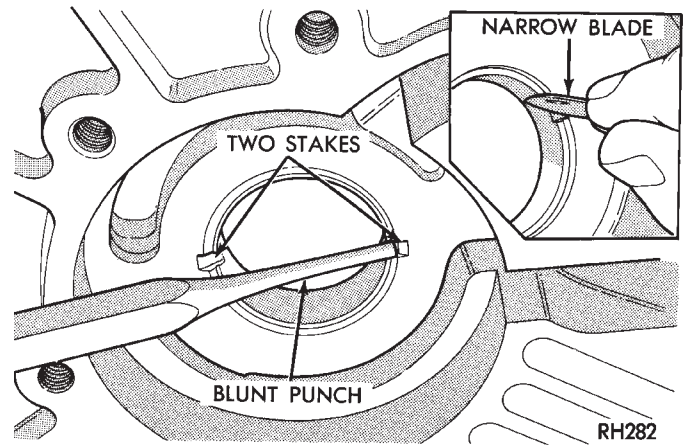

Fig. 55 Staking Oil Pump Bushing
(3) Stake new pump bushing in two places with blunt punch (Fig. 55). Remove burrs from stake points with knife blade afterward.